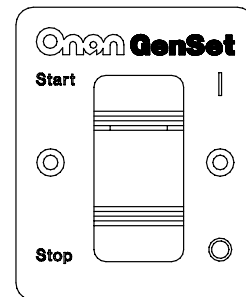

FIGURE 2-2. REMOTE SWITCH
- Remote switch with status indicator light only (Figure 2-2).